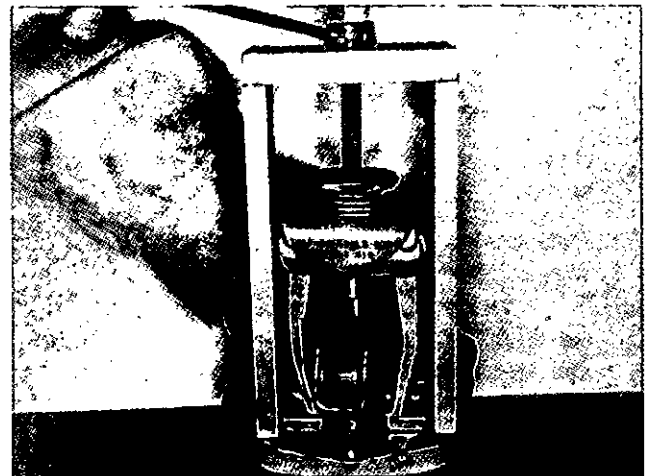

Fig. 3-1, (F538). Use the ST-709 to pull the governor weight assembly.
3. To remove the weight carrier assembly from the drive cover, use the ST-709 Puller. Pull the assembly and the bushing from the front cover, Fig. 3-1. The bushing can be held on the shaft with a retaining ring. If the retaining ring pulls off the shaft, leaving the bushing in the front cover, use the inside puller of the ST-709 to pull the bushing. If the shaft pulls off the cast carrier, use the ST-667 Dowel Puller to remove the shaft and bushing. New assemblies do not have a retaining ring.